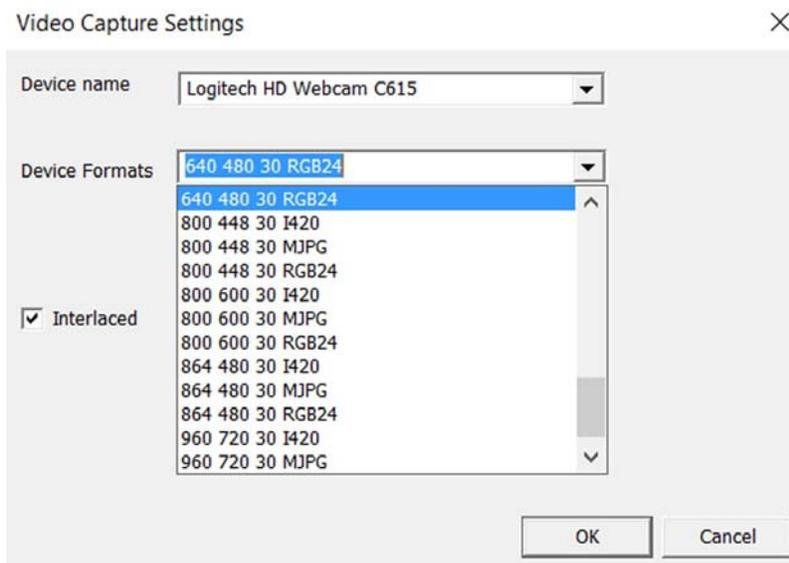

Figure 11 – The DEVICE FORMATS menu allows a number of possible values
- Now pull down the menu from the DEVICE FORMATS field as shown in Figure 11. Note that not all formats shown will be supported by a specific camera.